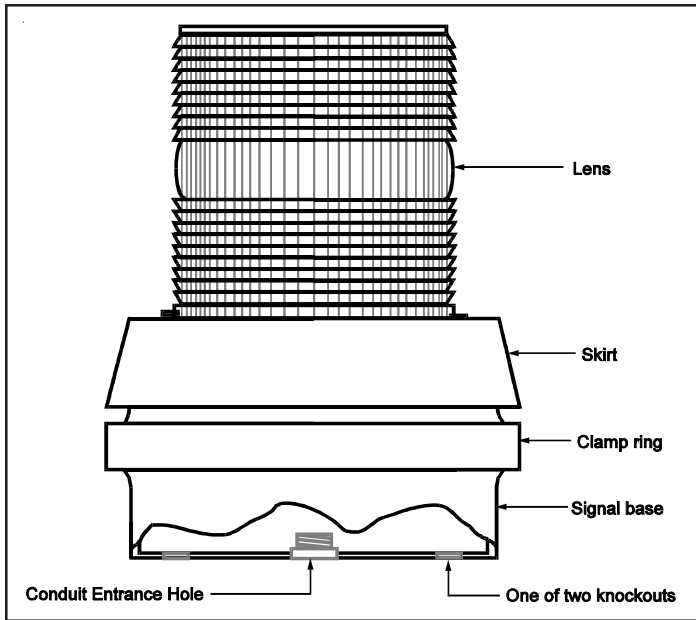

Figure 1. Catalog Series 51 Flashing Light with Horn
See Figure 1. Remove the screw in the clamp ring, remove the ring, and lift the lens/lamp assembly off the base. Now, install the base as described in Step 2.
- a. Remove the two knockouts for mounting screws from the signal base bottom. (See Figure 1 for the location of knockouts.)
See Figure 1. Remove the three screws from the top of the skirt and lift off the skirt and lens. Remove the old lamp. Insert the new lamp.